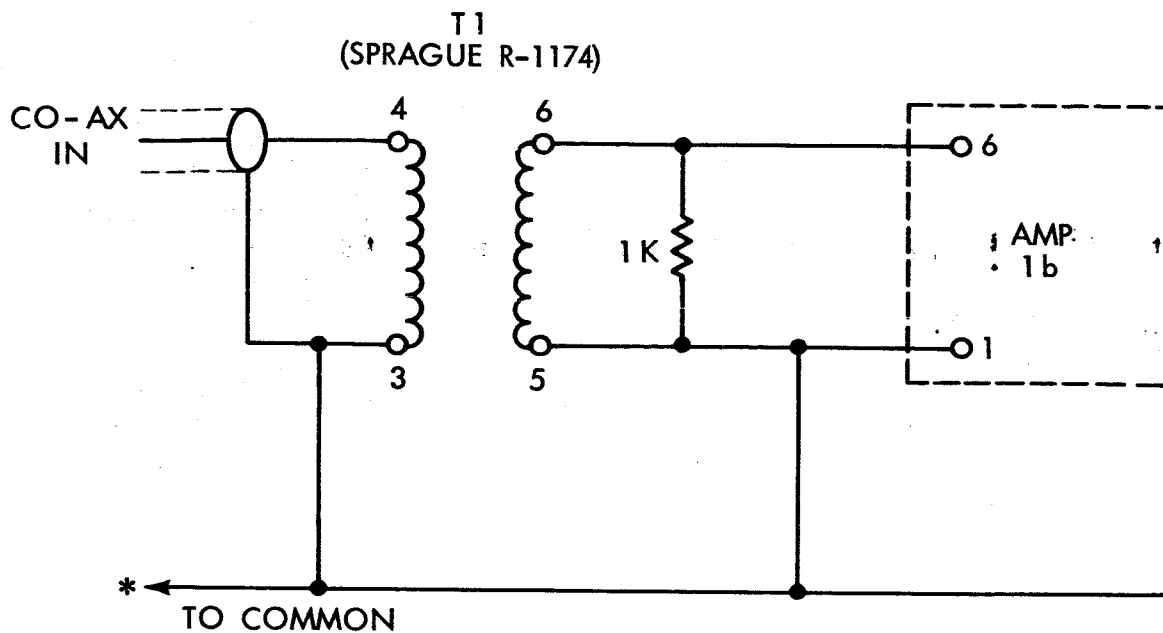

Figure 6. ADCR Mark 9, Board No. 1, Transformer and Connections for Channels A, B, and C.
- 1. Place transformer (Sprague R-1174) between input co-ax cable and input amplifier Type 1b in channels A, B, and C as shown in Figure 6.